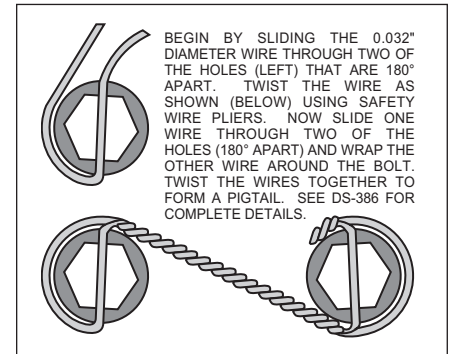
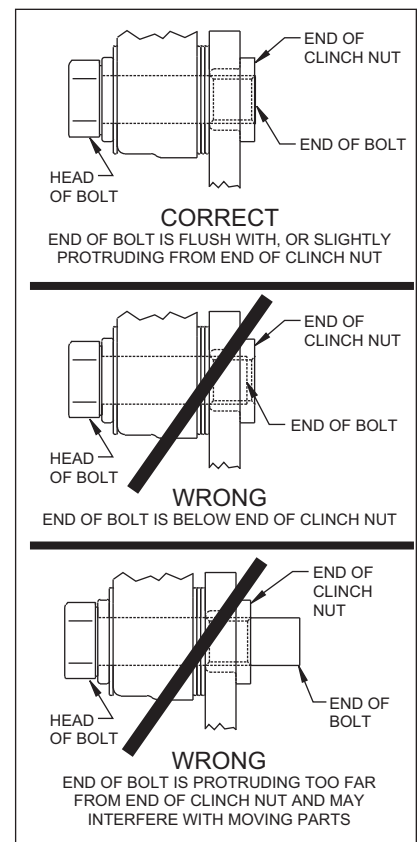

Figure 4. Safety Wire Diagram
Figure 5.
- Make sure this is the correct kit to fit the axle housing flange, not necessarily the rear end make. Many times after market manufacturers put a different make of axle housing flange on the stock rear end housing (see Figure 5). Example; Big Ford rear ends with Olds-Pontiac flanges, therefore, an Olds-Pontiac rear disc brake kit would be the correct kit to order.
- Dimension from wheel side of axle flange to wheel side of axle housing flange (see Figure 5, lower right hand corner). This dimension is critical to ensure proper alignment of the rotor to the caliper, and should match offset given in the kit description.
•With the slot pointing upward and the mounting ears pointing towards the rear of the vehicle, install the caliper mounting bracket (1) to the housing flange using the stock Original Equipment Manufacturer (OEM) bolts and nuts. Stock OEM hex nuts that retain the bracket (1) should be on the wheel side of the bracket. Apply red *Loctite*® 271 to the stock OEM bolt threads and torque to OEM specifications. **NOTE:** Some brackets act as the bearing retainers, while others help locate the bearing in the axle housing flange. If the stock bearing plates are still on the axle, the caliper mounting brackets (1) should be located between the axle housing flange and the bearing retainer plate. Make sure the heads of the caliper mounting bracket insert nuts are FACING OUTWARD TOWARDS THE WHEEL.
•The rotor (3) has two sides. A flat side and an inset side. Bolt hat (2) to flat side of rotor (3) by sliding one of the T-nut's (4) into the "T" slot on the hat and attaching the rotor using a lock washer (5) and bolt (6) through the mounting holes in the rotor (3) into the corresponding hole in the T-nut (4). Finger tighten only at this time. Repeat this procedure for the remaining T-nut's, lock washers and bolts. Insert the T-nut tool (supplied in the bolt kit) into the slot between the T-nut (4) and hat (2) up to the flat spot on the T-nut tool shaft. Torque bolt (6) to 198 **in-lb**. Remove T-nut tool and insert into T-nut slot on opposite side of hat and torque bolt (6) to 198 **in-lb**. Repeat until all T-nuts (4) have been tightened and torqued to proper specification. **NOTE:** Reference Wilwood data sheet DS-440 (supplied with this document) for additional information if necessary. Safety wire bolts (6) using standard 0.032 inch diameter stainless steel safety wire as shown in Figure 4, next page. Please refer to Wilwood's data sheet DS-386 (available at [www.wilwood.com/Pdf/DataSheets/ds386.pdf](http://www.wilwood.com/Pdf/DataSheets/ds386.pdf)) for complete safety wire installation instructions.
•Align the correct hole pattern in the hat (2) with the stud pattern on the axle flange. **NOTE:** Some OEM and after market axles come with stud sizes larger than 0.50" diameter. Verify stud size and have a qualified machine shop drill the hats to the correct size. Slide the hat/rotor assembly (2 and 3) over the wheel studs and against the axle flange face.
•**NOTE:** Please reference the caution statement at the beginning of the assembly instructions. WITH THE BLEED SCREWS POINTING UP, mount the caliper (7) over the rotor (3) and onto the caliper mounting bracket (1) using washers (8) and mounting bolts (9). View the rotor through the top opening of the caliper. The rotor should be aligned in the center of the caliper. If not, adjust the caliper by using 0.032 inch shims (10) by placing them between the caliper mounting bracket (1) and the caliper (7). Add as many shim washers (10) as necessary to achieve the correct alignment. **NOTE:** The end of the bolt must be flush with or slightly protruding from the head of the clinch nut. See Figure 5. Place spare shims (10) between washer and caliper mounting ear to achieve the proper mounting fastener configuration. Always use the same amount of shims on both the top and bottom caliper mounting bolts (9). Apply red *Loctite*® 271 to the mounting bolt threads (9), torque to 30 ft-lb. Safety wire the caliper mounting bolts (9).
•Position the Wilwood disc brake pads (11) into the caliper (7) and fasten with cotter pin (12). Steel backing plate side of brake pad should face the caliper pistons.